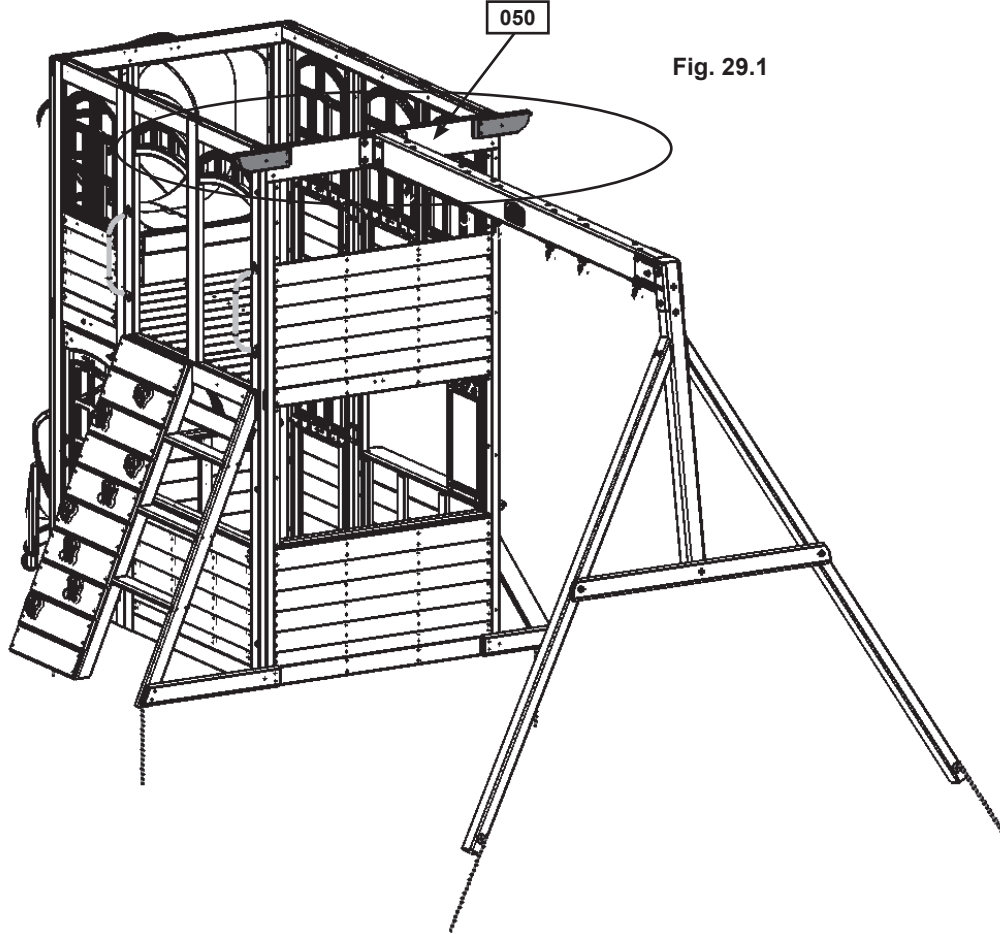

Fig. 29.1
**A:** Place 1 (290) Roof End flush to the top of (050) SW Panel on the right hand side, measure overhang so it is 12.38 cm (4-7/8") then attach with 2 (S11) #8 x 2" Wood Screws and 1 (S4) #8 x 3" Wood Screw. (fig. 29.1 and 29.2)
**B:** Repeat Step A for 1 (291) Roof End Left. (fig. 29.1 and 29.2)